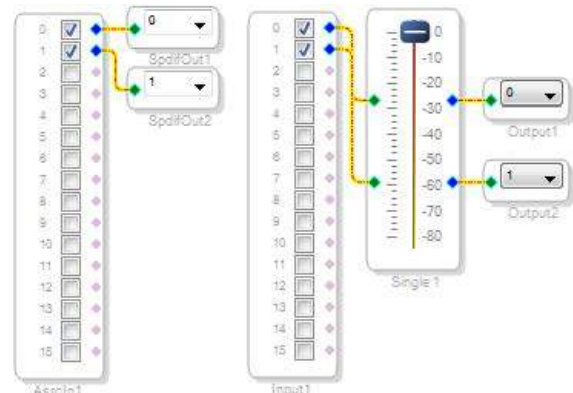

Figure 49. Signal Flow Including S/PDIF Input (via ASRC) and S/PDIF Output
9. Connect the signals from the **Asrc Input** block to the **Spdif Output** blocks so that the resulting signal flow resembles Figure 49.